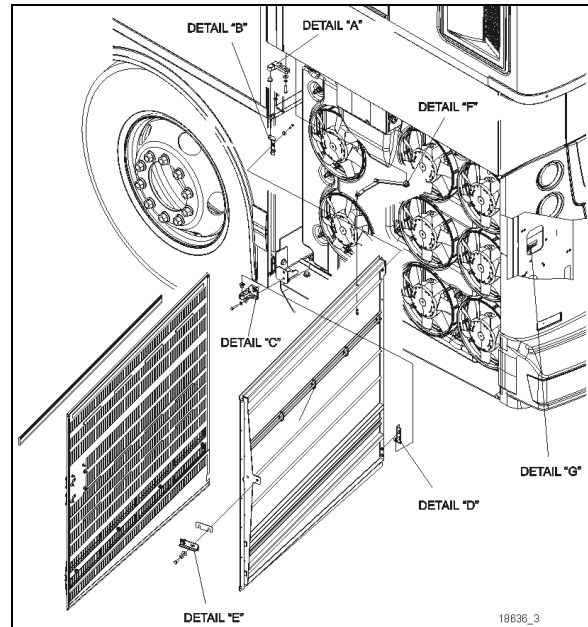

FIGURE 74: RADIATOR DOOR
1. Loosen the bolts, ("A" & "C", Figure 74) holding the hinge to the vehicle structure to shift the door "LEFT or RIGHT".
2. Loosening the bolts ("B" and "D", Figure 74) allows the door to be shifted "UP or DOWN".
To adjust the latch mechanism ("E" and "G", Figure 74) and the striker pin:
1. Open the door and slightly loosen the latch tab ("E", Figure 74).